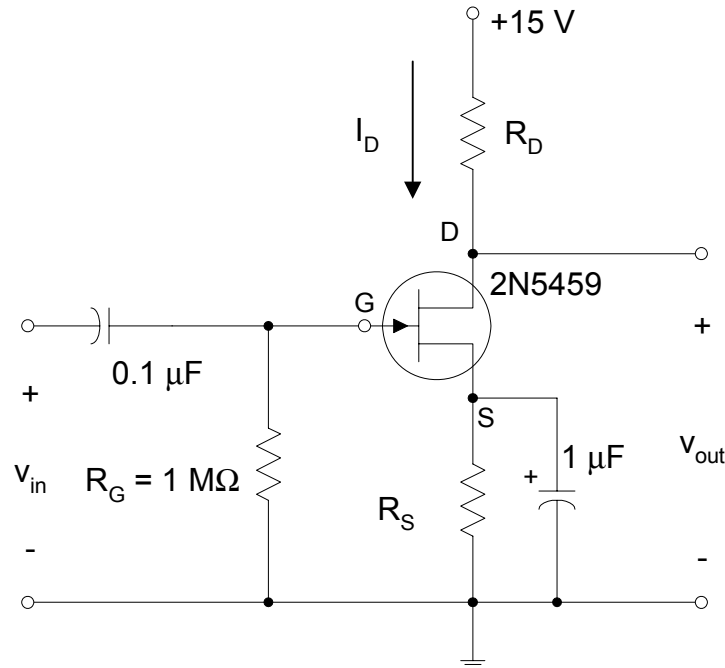

Figure 2: Circuit for Experiment 3.
5. Construct the circuit of Figure 2. Use $R_D = 6.2k\Omega$. Connect the scope probes to the V_{IN} and V_{OUT} terminals. Choose R_S to produce a static operating drain current $I_D = 1$ mA. Use the characteristic curves you drew in step 4 to help you choose the correct value of V_{GS} to produce this 1 mA drain current. Note that depletion-mode JFET's conduct their maximum I_D with zero volts on the gate (= I_{DSS}). [Actually, one can go slightly above $V_{GS} = 0$ but the gate-source junction will be biased "on" at about 0.6 volts making the input look like a forward-biased diode, with its characteristically low input resistance and non-linear voltage-current relationship. FET's are almost always used for their low noise, high input resistance and low input current, so biasing the gate-source junction "on" is not recommended.]